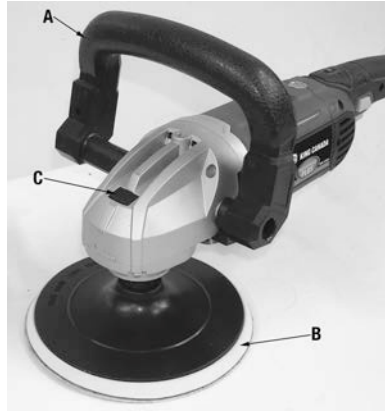

Figure 1
This Polisher/Sander comes with a large "D" handle which can and should be mounted to the housing. Position "D" handle (A) Fig.1 as desired and fix the "D" handle to the housing with the supplied cap screws, washers and spring washers, using the supplied 6mm hex. key.
All attachments get mounted onto the hook-and-loop 7" polishing/sanding back-up pad (B) Fig.1. Mount it onto the tool spindle shaft as shown in Fig.1. Press the spindle lock button (C) to prevent the spindle shaft from turning and tighten the 7" polishing/sanding back-up pad.